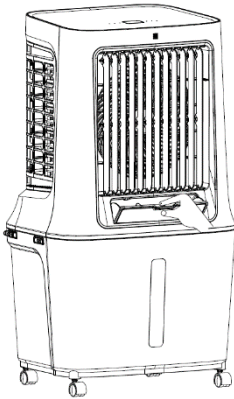

Fig. 1
1. Open the water filler neck and slowly pour water into the water tank (see figures 1 and 2).